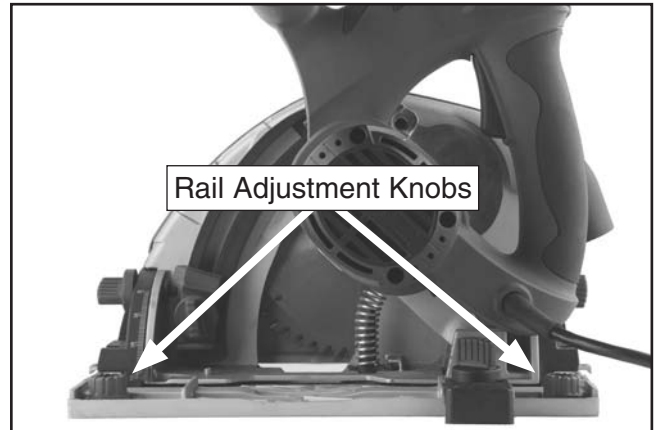

Figure 22. Location of rail adjustment knobs.
4. Adjust the rail adjustment knobs to position the saw along the rail (see **Figure 22**). When the rail edge and saw cutting path both line up straight, the saw is properly set up with the rail track.